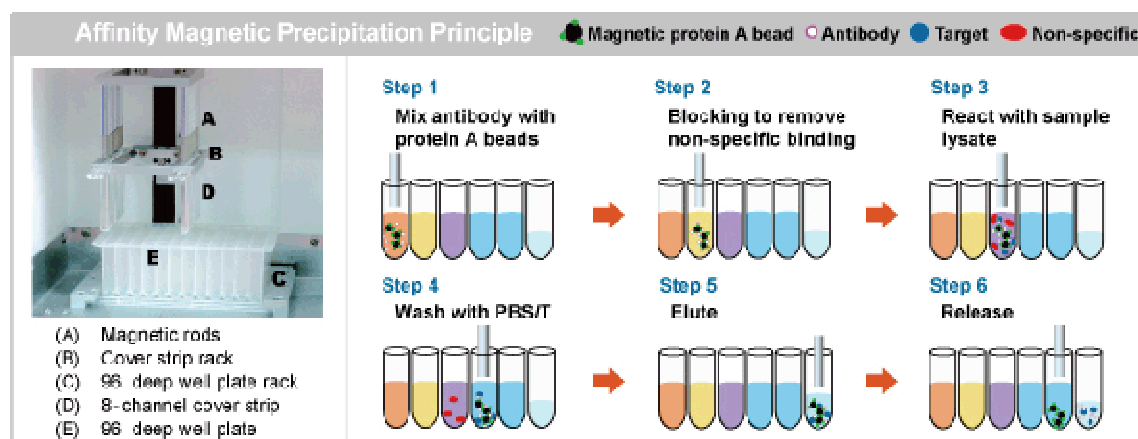

Figure 1. The principle of the precipitation reaction in Precipitor™.
In this guide, we demonstrate a procedure of using Precipitor™ to immunoprecipitate the desired protein (antigen) from a sample by antibody coupled protein A magnetic bead. Figure 1 demonstrates step by step of the precipitation reaction in Precipitor™.
7. Insert the 96 deep well plate into the **96 deep well plate rack** (please refer to figure 1).
8. Insert 8-channel cover Strips into the **cover strip rack** (please refer to figure 1).